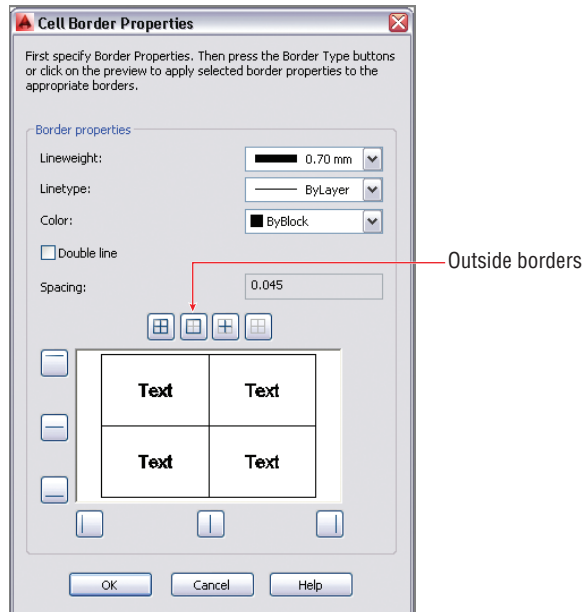

FIGURE 15.32 Changing cell border properties
14. Select cell ABC1, hold Shift, and select cell C6 to activate all the table's cells. Click the Edit Borders icon in the Cell Styles panel. Open the Lineweight drop-down menu, and select 0.70 mm. Click the Outside Borders button to apply the properties and click OK (see Figure 15.32). A thicker line appears around the outside borders of the table.